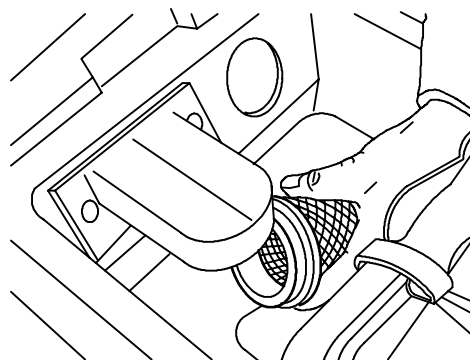

FIG. 46
4. Remove and rinse off the float shut-off screen located in recovery tank (Figure 46).